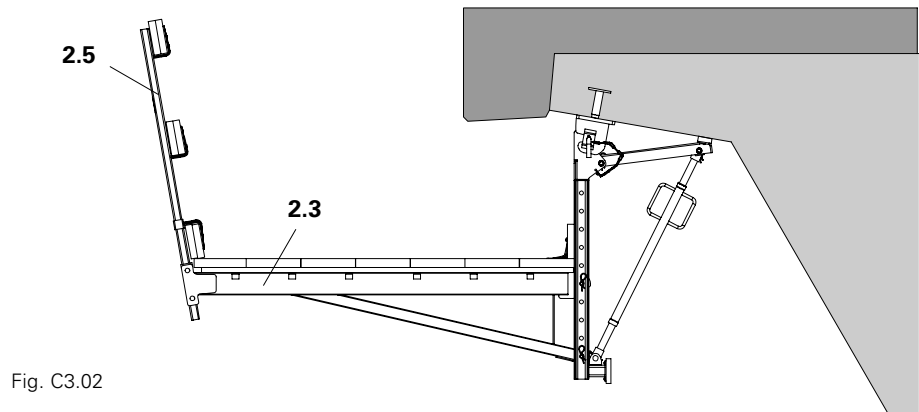

Fig. C3.02
1. Remove guardrail boards and guardrail posts (2.5). (Fig. C3.02)